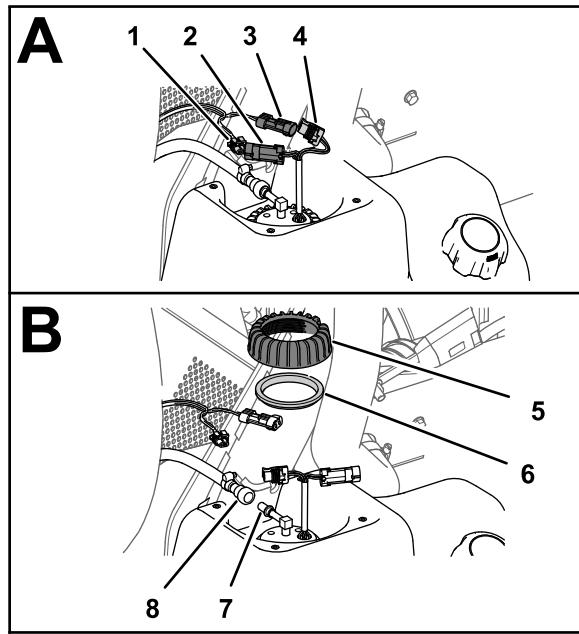

Figure 120
machine-wiring harness from the 2-socket connector of the fuel pump/sending unit (Figure 120).
2. Slide the locking sleeve of the fuel-hose coupling away from the fitting of the fuel pump/sending unit and remove the coupling and hose from the fitting (Figure 120).
3. Rotate the nut for the fuel pump/sending unit counterclockwise and remove the nut and seal (Figure 120)